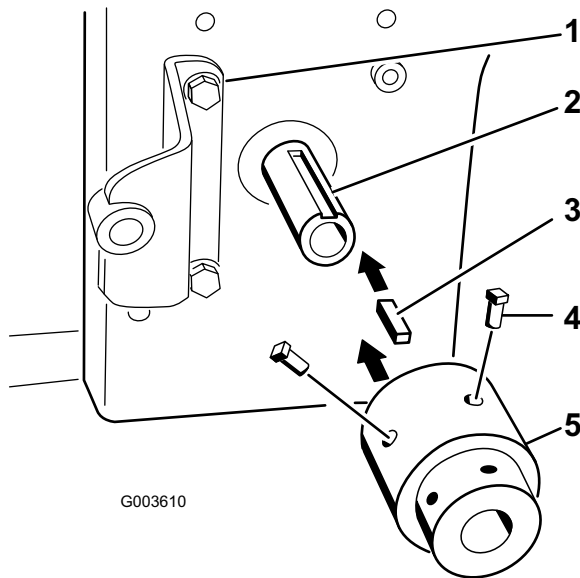

Figure 19
6. Install the square key (1/4 x 1 inch) into the slot in the engine PTO shaft (Figure 19).
7. Align the hub assembly with the square key and install it onto the engine PTO (Power Take Off) shaft (Figure 19).
8. Apply blue Loctite® to the 2 set screws (5/16 x 3/4 inch) and install them into the hub assembly to secure it to the PTO shaft (Figure 19).